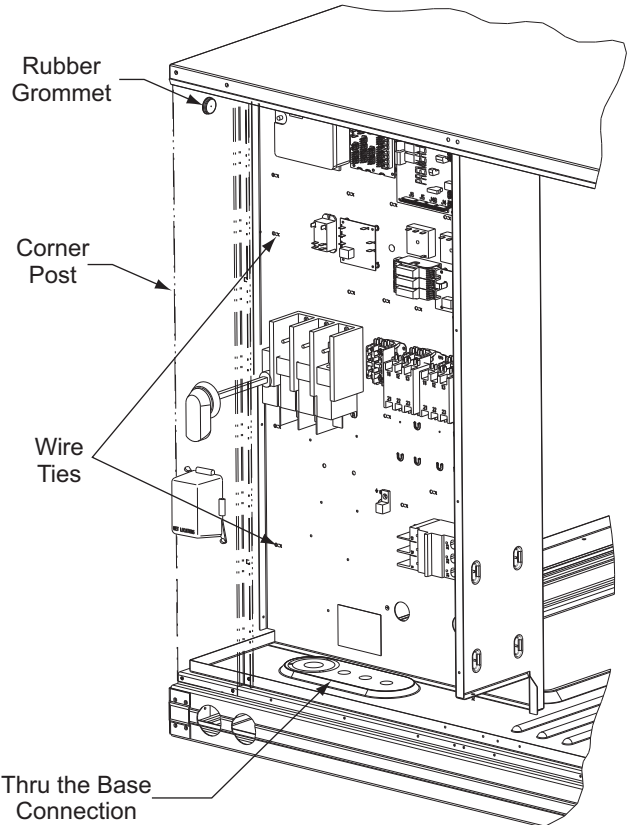

Fig. 27 — Field Control Wiring Raceway
Unit Without Thru-Base Connection Kit — Correctly rated low voltage wire can be routed through the rubber grommet located on the corner post adjacent to the control box access panel. Route wire through the grommet and then route the wire behind the corner post utilizing the factory provided wire ties secured to the control box. This will ensure separation of the field low voltage wire and the high voltage circuit. Route the low voltage wire to the central terminal board. See Fig. 27.
2. Feed wires through the raceway built into the corner post (see Fig. 27) to the 24-v barrier located on the left side of the control box. The raceway provides the UL-required clearance between high-voltage and low-voltage wiring.